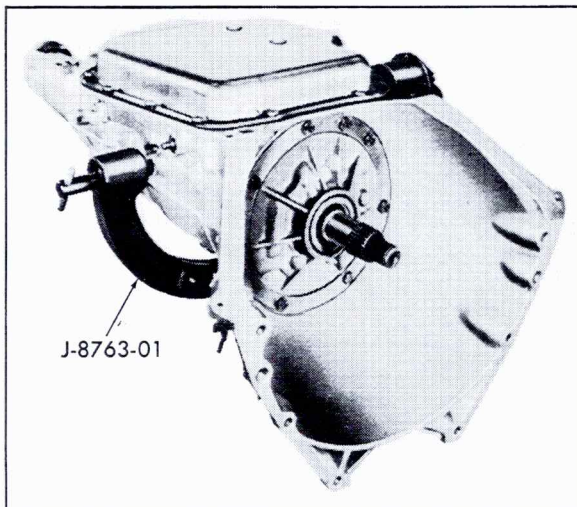

Fig. 7-43 Transmission in Holding Fixture
1. Remove converter from transmission and install Holding Fixture, J-8763-01, on transmission so that vacuum modulator will be located on side of Holding Fixture nearest the bench. Install fixture and transmission into Holding Fixture Base, J-3289-20, with bottom pan facing up, Fig. 7-43, and install lock pin in base. Provide container to catch any oil that may drain from transmission.